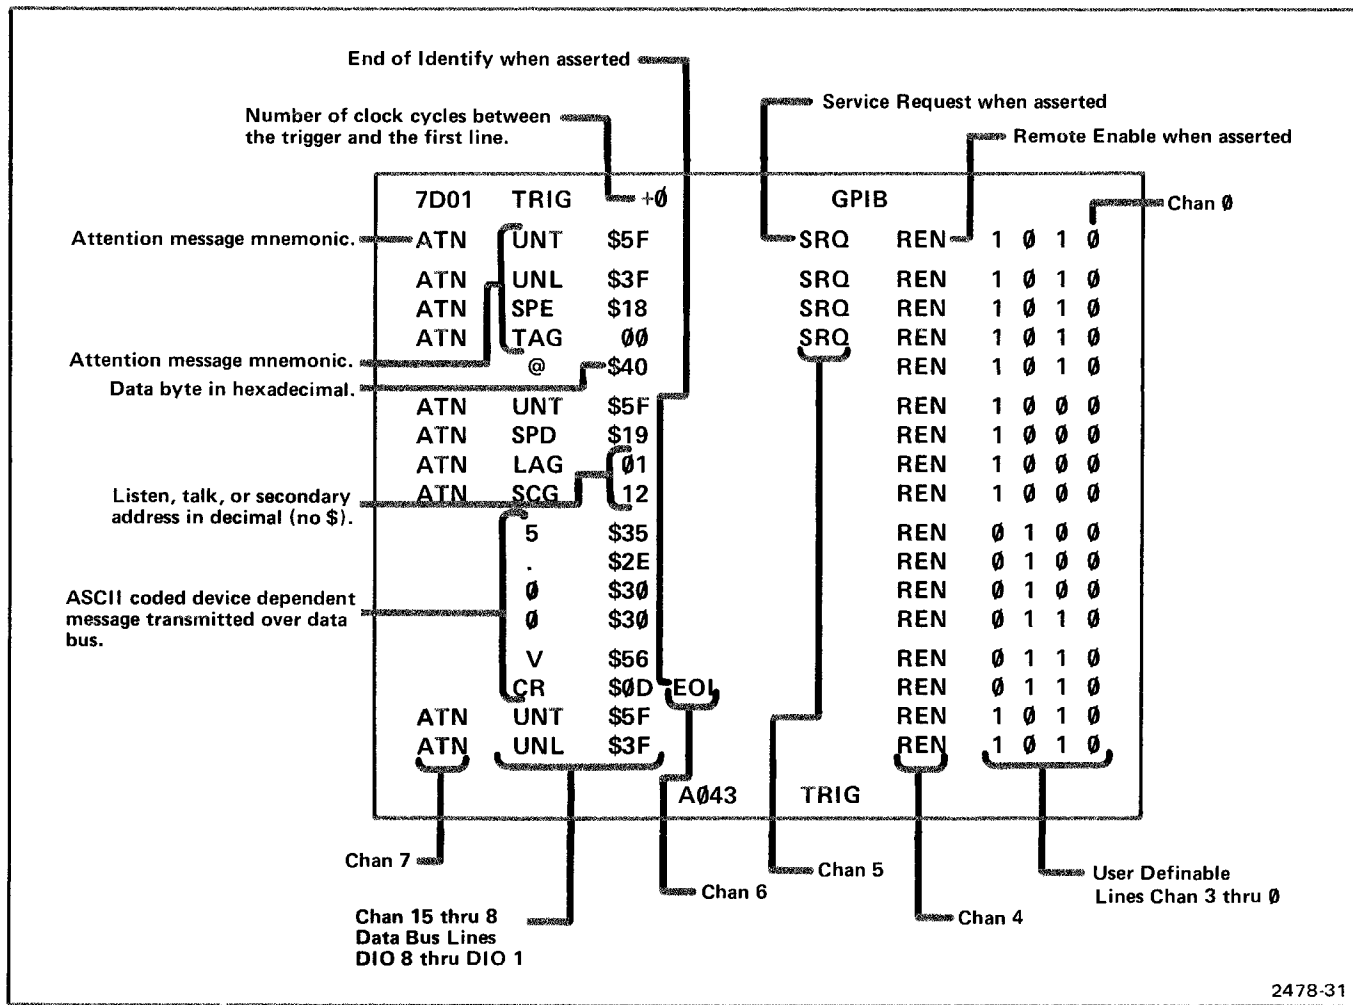

Figure 3-7. Typical DF GPIB display showing disassembled instructions in IEEE Standard 488-1975 message mnemonics.
- c. Each line (bus transaction) on the crt contains data information from the interface bus. Up to 16 bus lines may be connected through the GPIB Adapter via the P6451 probes to the 16 channels in the 7D01. Figure 3-7 depicts the relationship of the 16 channels in the 7D01 to each line readout on the crt display and describes the mnemonic representation of the GPIB signal lines.
The four user-definable lines may be connected to the three handshake lines (DAV, NRD, and NDAC) and control line (IFC) at the GPIB Adapter connector. Or, if desired, they may be connected to other points within the user's circuitry. The binary value of each line is displayed on the right of the crt. See Figure 3-7.